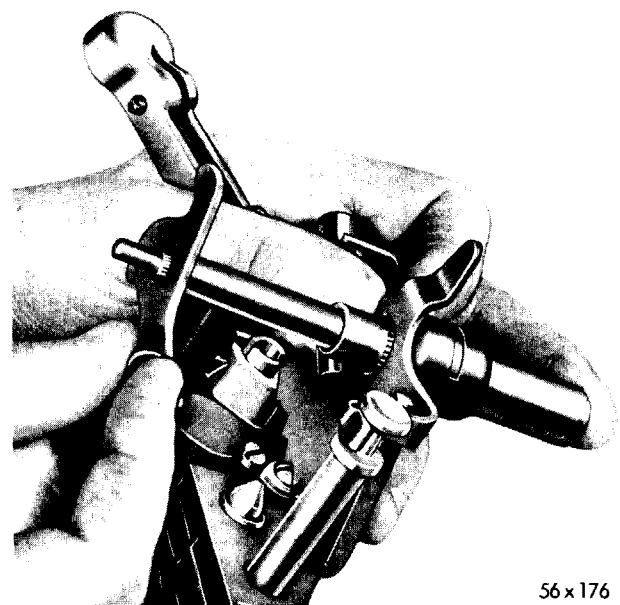

Fig. 51—Placing Throttle Valve Cam Shaft in Sleeve
(5) With finger pressure holding manual valve shoulder in bore, insert sleeve (short end) in bore, (up to stop ring).
(6) Position throttle valve cam in sleeve, as shown in Figure 51, and lock in place with retainer. If retainer is not placed in position at this time, the detent plate may move out of position, allowing the detent ball to escape from its bore.
(7) Place valve body in stand, Tool C-3294.
(8) Place kickdown rod into position in valve body.
(9) Install the shift valve spring in valve body.
(10) Install the shuttle valve in valve body. Coat stop ring lightly with transmission fluid and place into recess in valve body.
(11) Place shuttle valve spring in valve body.
(12) Place kickdown valve ball into valve body.
(13) Place valve body end cover plate on end cover. Install the one short screw and lockwasher and tighten snugly.
(14) Place adjustable shuttle valve plug into position in valve body end cover. Plug must fit to full depth of bore.
(15) Install the kickdown valve spring in place in end cover.